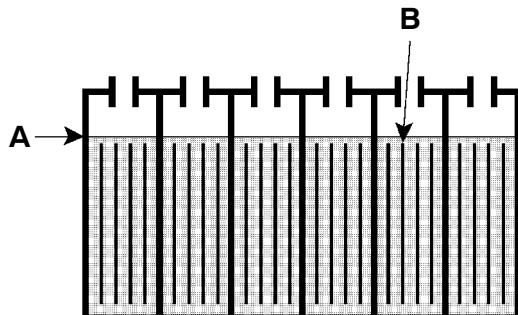

FIG. 18
4. Before charging, check the fluid level (A) in each battery cell. If the battery plates (B) are exposed, add just enough distilled water to cover plates. **DO NOT OVERFILL.** Overfilled batteries can overflow during charging due to fluid expansion. Replace cell caps before charging (Figure 18).